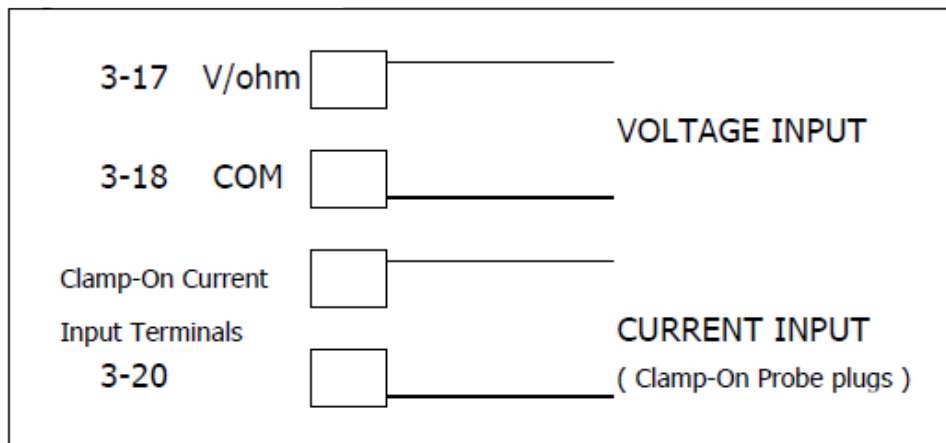

Fig. 4
1. Wire connection as follows, refer (Fig. 4)
"V-Terminal" (3-17, Fig. 4) and "COM Terminal" (3-18, Fig. 4)
The output plug of the inductive current probe (1 AC mV per 1 ACA connect to the "Clamp-On Current Input Terminals" (3-20, Fig. 4)